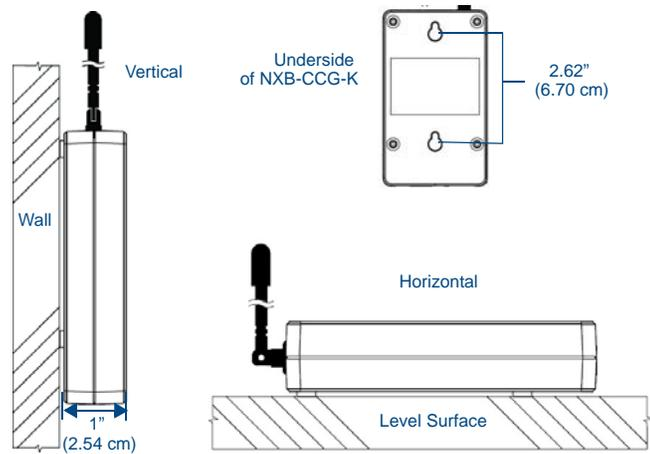

FIG. 3 Installation Diagram
- Mount vertically or horizontally (FIG. 3), using two #6 (M3) screws. When mounting, allow 7 in (177.8 mm) clearance for the antenna and ensure convenient access to the power plug. In order to achieve proper RF performance, do not mount unit in a metal enclosure.